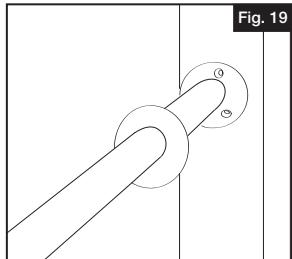

Fig. 19
- 3.** Slide trim cover over lineal (Fig. 19).